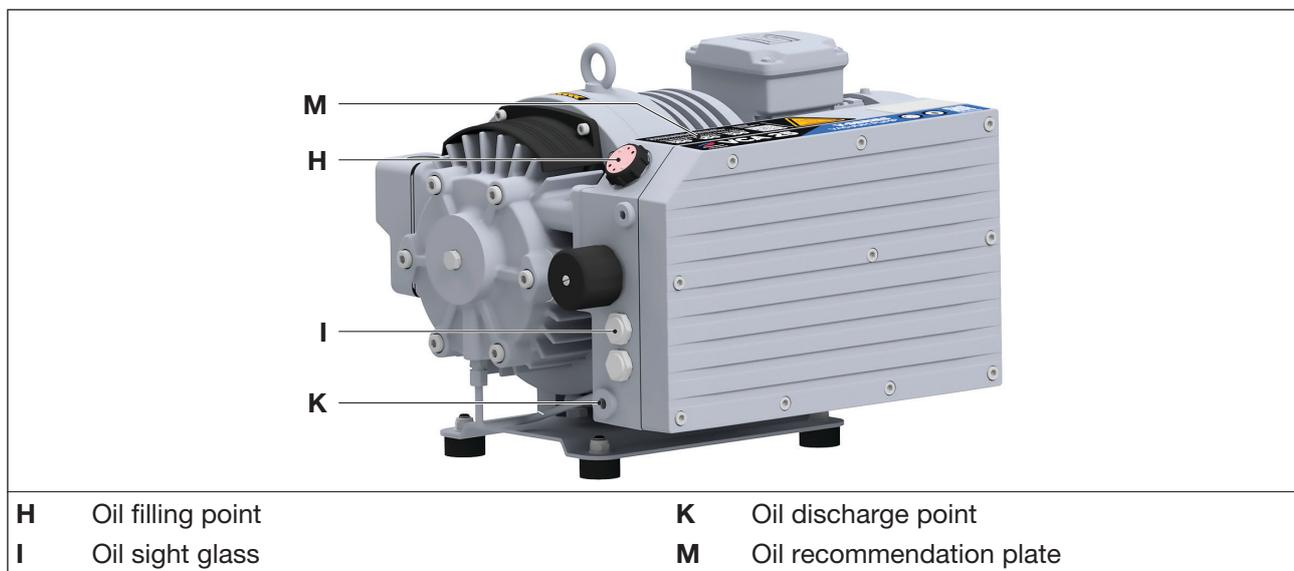

Fig. 7 Oil change
As operating agent, we recommend Elmo Rietschle oils, see oil recommendation plate (Fig. 7/M) as well as Tab. 3 on page 31:
- b) Open the cap of the oil filling point (Fig. 7/H) and refill oil until it reaches the upper edge of the sight glass (Fig. 7/I).
- b) Open the cap of the oil filling point (Fig. 7/H), open the oil discharge point (Fig. 7/K) and completely discharge the used oil.
- c) Close the oil discharge point (Fig. 7/K) and fill in new oil through the oil filling point (Fig. 7/H) up to the upper edge of the sight glass (Fig. 7/I).
- d) Check the oil level in the sight glasses (Fig. 7/I).